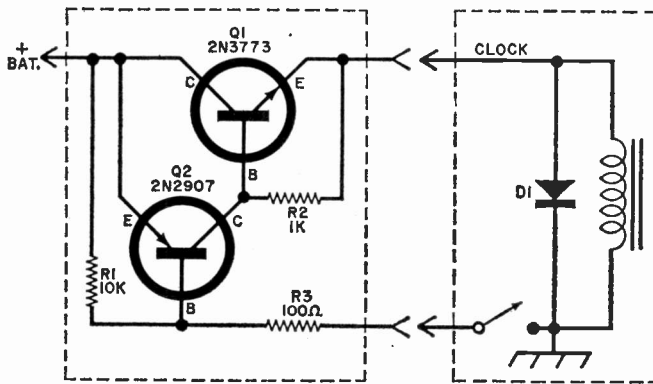

Fig. 3. Connected between battery and clock, this simple circuit provides arc suppression and limits contact current.
**Solving the Problem.** Two things can be done to eliminate or drastically reduce the possibility of clock failure: provide arc suppression and reduce contact current. The simple circuit shown in Fig. 3 is designed to do just that. Diode D1 across the coil provides arc suppression.